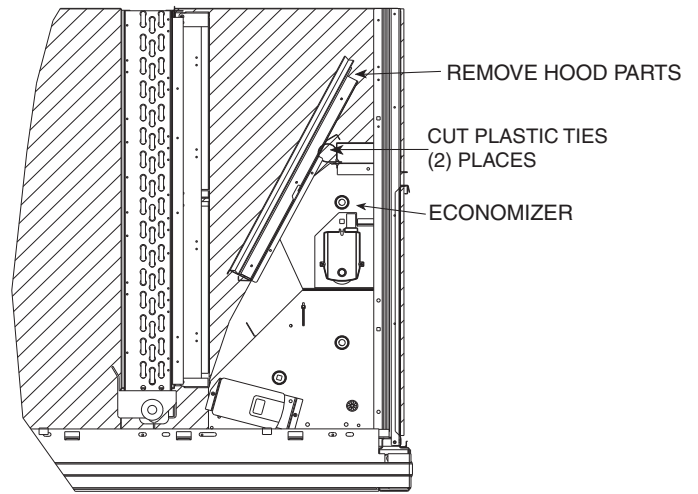

Fig. 12 — Economizer Wiring
2. Locate and cut the (2) plastic tie-wraps, being careful not to damage any wiring. (See Fig. 12.)